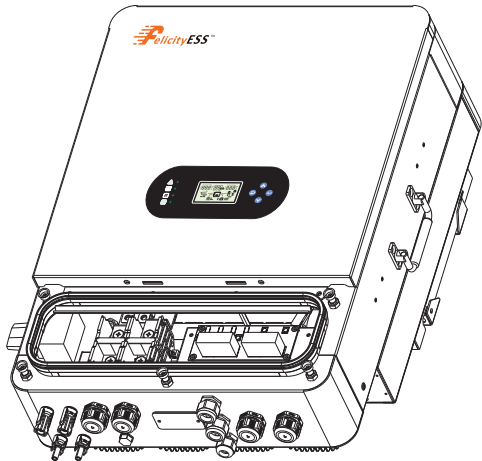

Figure 4.6-1 DRMS interface
Step 1: Screw this cover off from the inverter.See Figure 4.6-1.